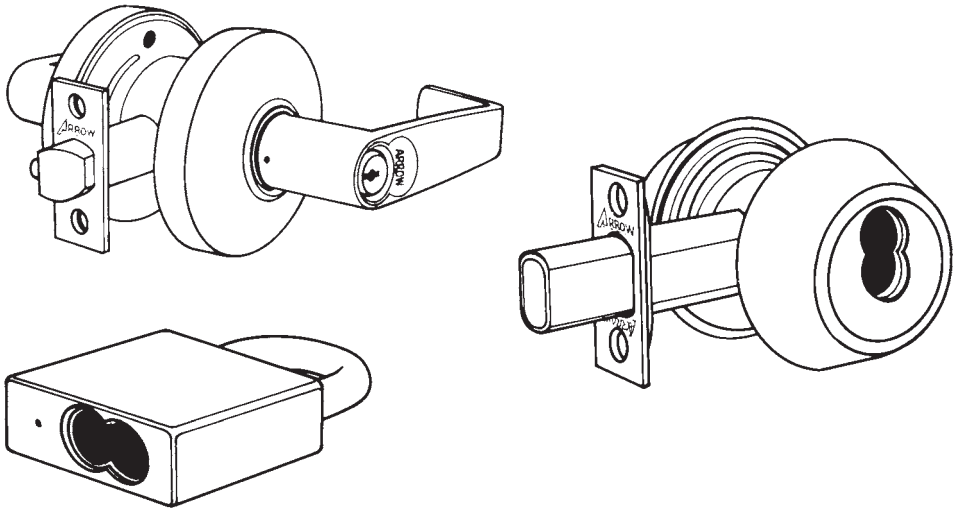
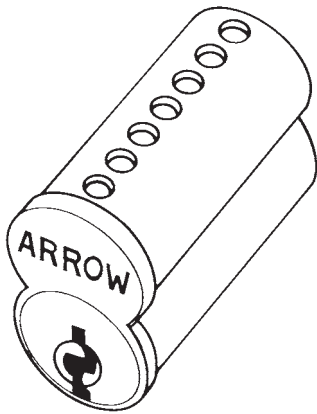

Figure 3.11 Types of IC locks. (Arrow Lock Company)
Figure 3.12 An IC core can be inserted into many different IC locks. (Arrow Lock Company)
Another type of pin tumbler system is found in *interchangeable core (IC)* locks. Although they come in the form of deadbolts, key-in-knobs, rim locks, mortise locks, padlocks, and desk and cabinet locks, all locks in an IC system can either use the same key or be masterkeyed. Some examples of IC locks are shown in Fig. 3.11. The common feature of IC locks is a figure 8-shaped core that houses the tumblers and springs. The cores can be easily removed and replaced (Fig. 3.12). Any IC lock can be rekeyed simply by inserting new cores in the locks.